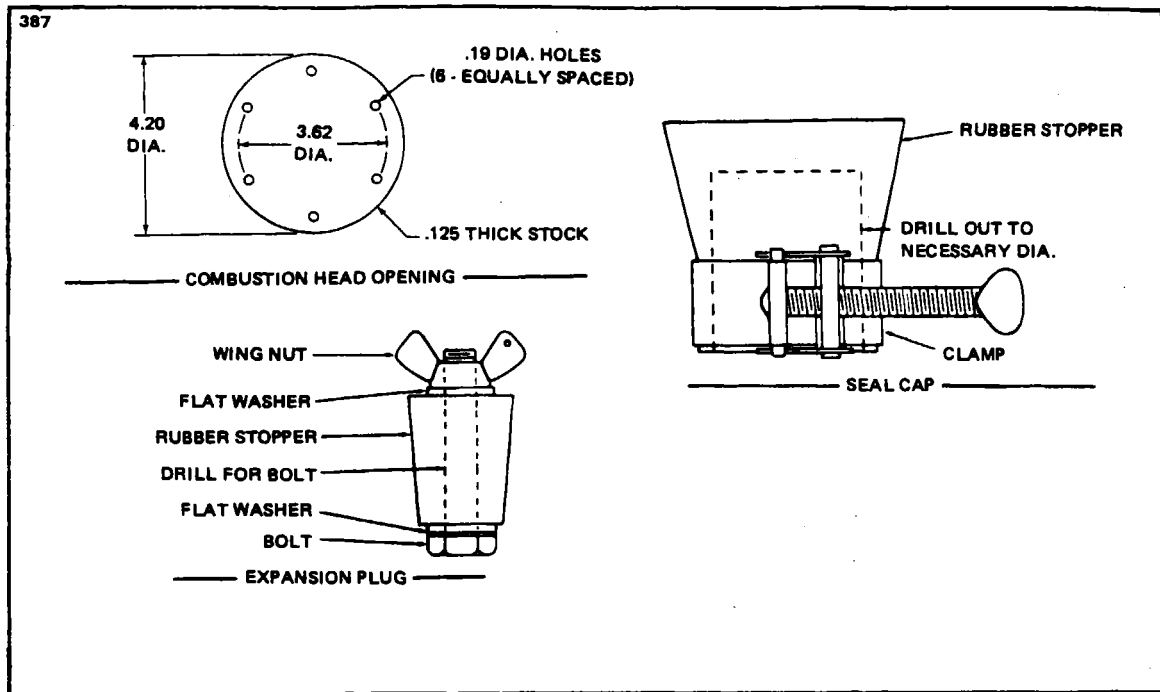

Figure 13-45. Suggested Design for Seal Plate, Plugs and Caps for Combustion Tube Leakage Test
2. Make up seals for all remaining openings, except the one used to connect the air pressure source. (Refer to Figure 13-45.) Use rubber stoppers as shown. The combustion air inlet tube can be sealed best with a drilled stopper and clamp. Other openings should be sealed with expansion plugs. The seal used in the exhaust tube should be formed so that it will not deform the air pressure switch tube which protrudes into the exhaust.